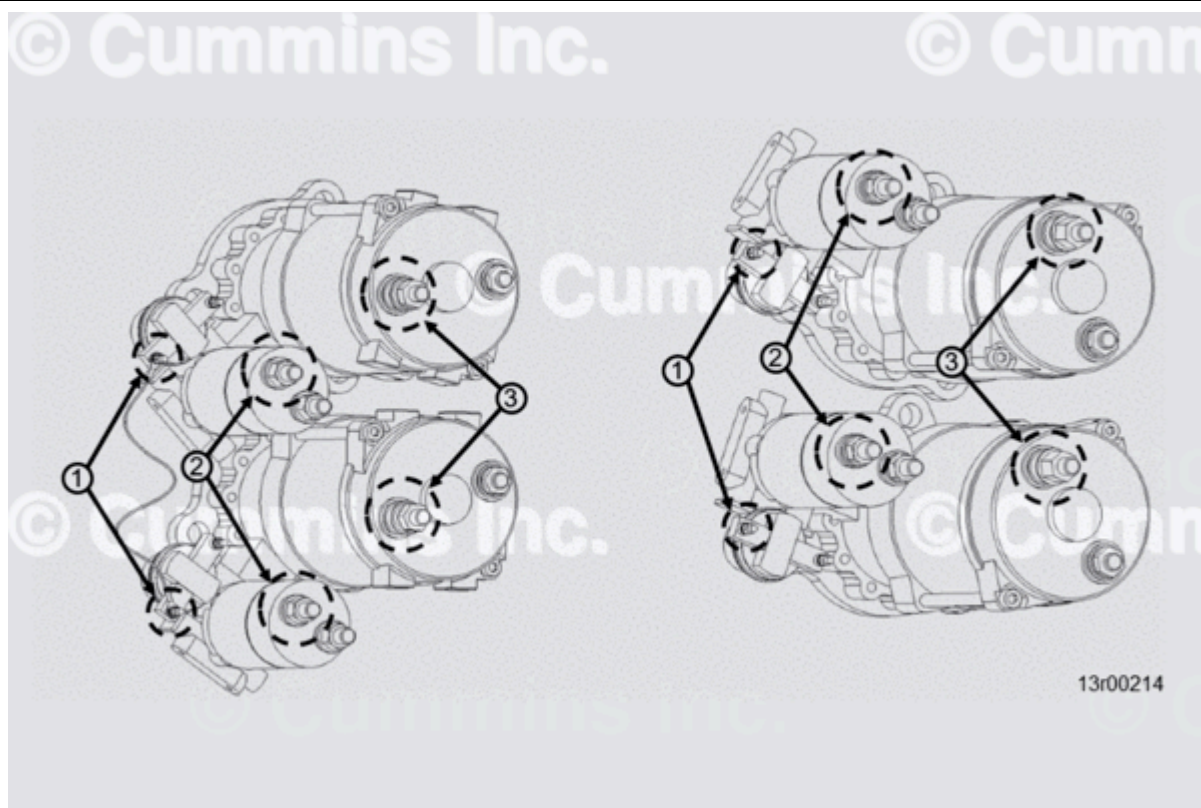

Figure 4, Starting Motor Terminal Identification. Left: QSK. Right: KV.
- Figure 4 shows the wiring terminals that **must** be used to wire the starting motor correctly. The T50C (Ignition 'S') terminal **must** be balanced using 16AWG wire between both T50C (Ignition 'S') starting motor terminals.